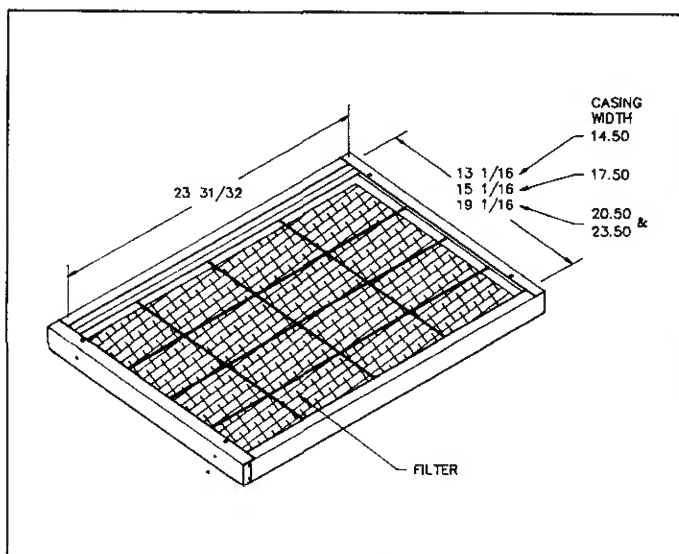

**FIGURE 26**
2. In downflow position, return air duct must be a minimum 19-7/8" inside depth. See Figure 26.